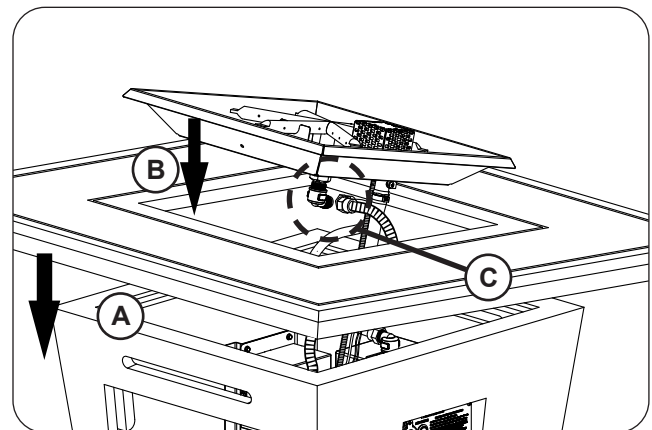

Fig. 36-2 Place top, burner, and connect flex
3. **Carefully** place the top on the unit (see Fig. 36-2, A).
4. Drop the burner assembly into the opening in the center of the firetable top, with the two burner pan holes facing toward the door (see Fig. 36-2, B).
5. Locate the flex connector (marked OUT) that is coming off the valve assembly. Route it to the connection found on the underside of the burner assembly and connect. Tighten securely. See Fig. 36-2, C.